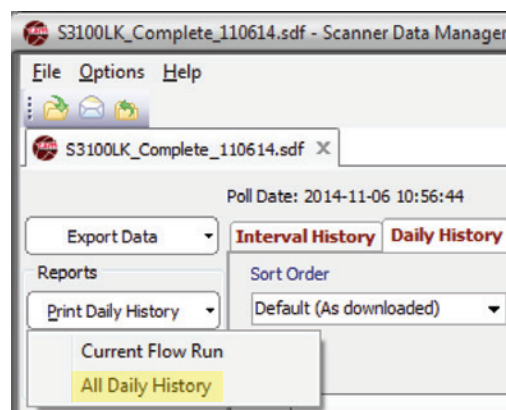
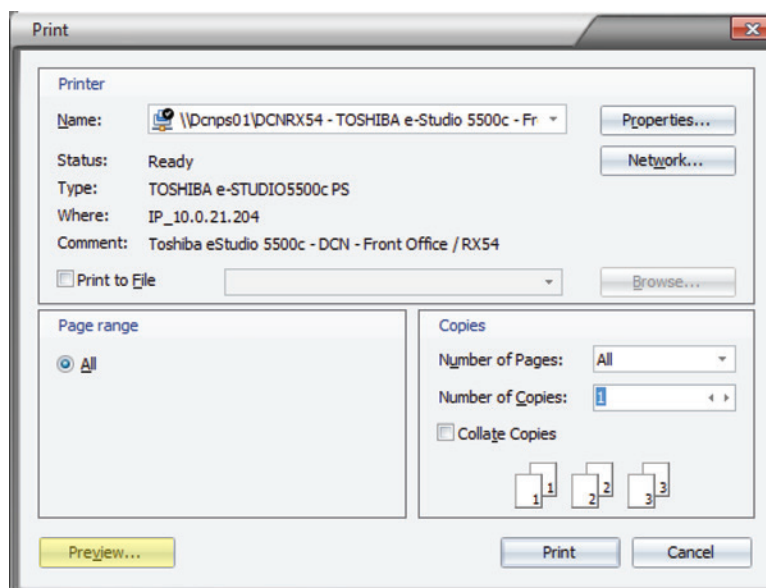

Figure 4.7—Reports>Print dropdown menu with “All [Data Type] History” selected
Figure 4.8—Print dialog showing Preview button
2. Click the **Print [Data Type]** button and select “All [Data Type]” from the dropdown menu (Figure 4.7, page 48). The *Print* dialog will appear (Figure 4.8, page 49).